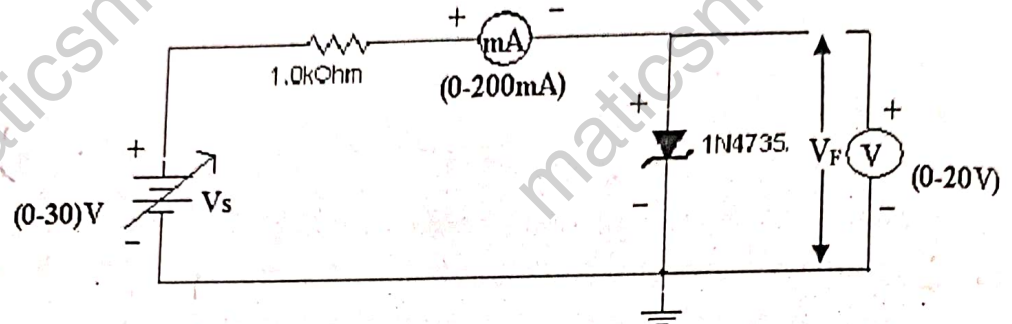

Figure 4.2: Zener diode in forward bias
1. Do not switch ON the power supply unless you have checked circuit connections as in figure 4.2
2. While doing the practical do not exceed the input voltage of the diode beyond the rated voltage of diode as given in datasheet. This may lead to damaging of the diode. Connect the circuit as in figure 4.2
1. Connect the circuit as in figure 4.2